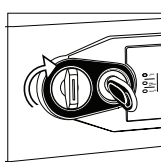
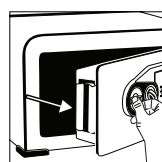

Figure 4
Figure 5
4. Turn knob clockwise to the right and pull safe door open (Figure 4 & Figure 5).